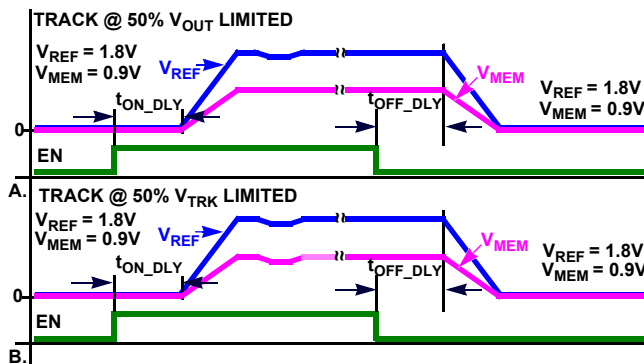

FIGURE 20. RATIOMETRIC TRACKING
- a. Track at 50% VOUT limited. Member rail tracks the reference rail and stops when the member reaches 50% of the target voltage, Figure 20 (A).
- b. Track at 50% VTRK limited. Member rail tracks the reference at the instantaneous voltage value applied to the VTRK pin until the member rail reaches 50% of the reference rail voltage, or if the member is configured to less than 50% of the reference the member will achieve its configured target, Figure 20 (B).
| Tracking Configuration Figure 20 (A) |                  |                  |                   |                   |                    |                   |
| Tracking Configuration Figure 20 (B) |                  |                  |                   |                   |                    |                   |